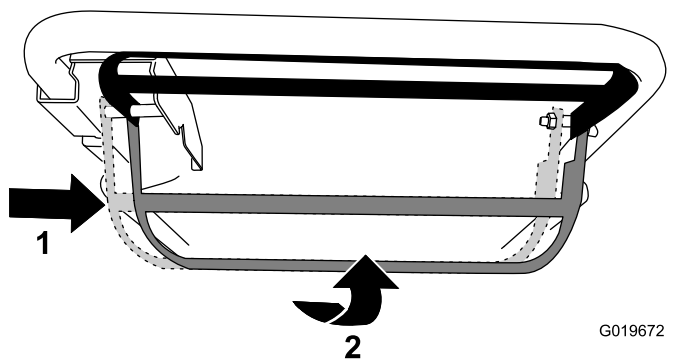

Figure 15
- **To operate the self-propel drive and engage the blade:** Move the blade-control bar all the way to the right and raise it to the handle (Figure 15).